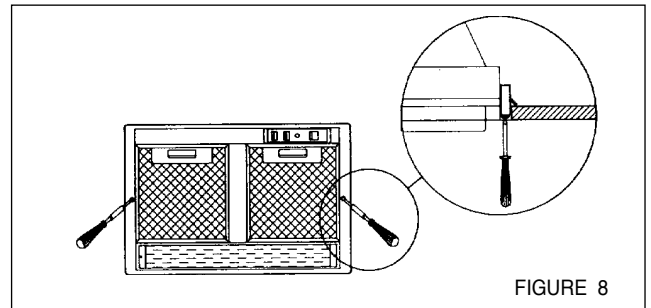

FIGURE 8
6. Tighten the rangehood to the cabinet by rotating the screws indicated in FIGURE 8 with a flat blade screw driver.